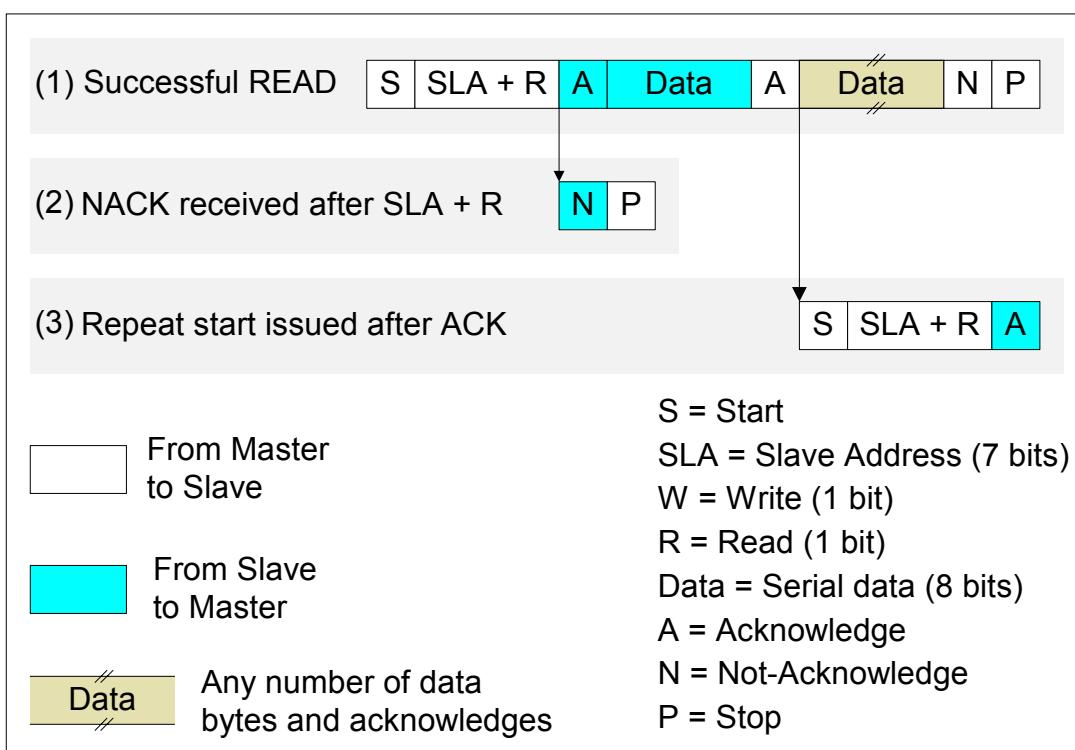

Figure 4. Typical READ Scenarios
Example (1) in Figure 4 shows a successful READ operation when the device is operating as a Master Receiver.